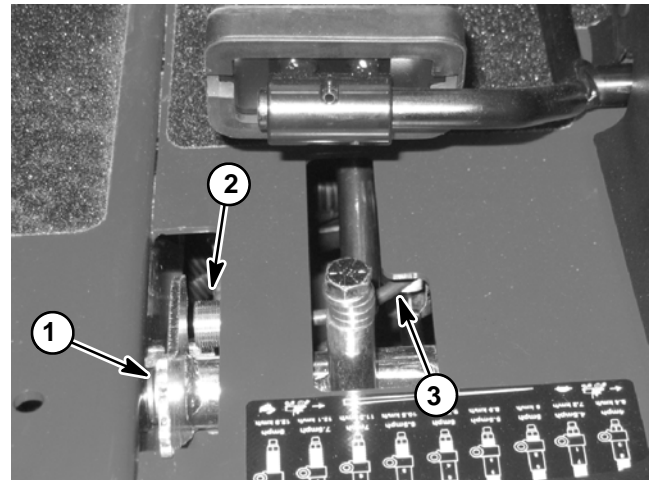

Figure 33
2. Turn ignition switch to the ON position (do not start engine) and check LED on cable end of mow/transport switch (Fig. 33). LED **should be** illuminated when the mow speed limiter is in the MOW position. The LED **should not be** illuminated when the limiter is in the TRANSPORT position.